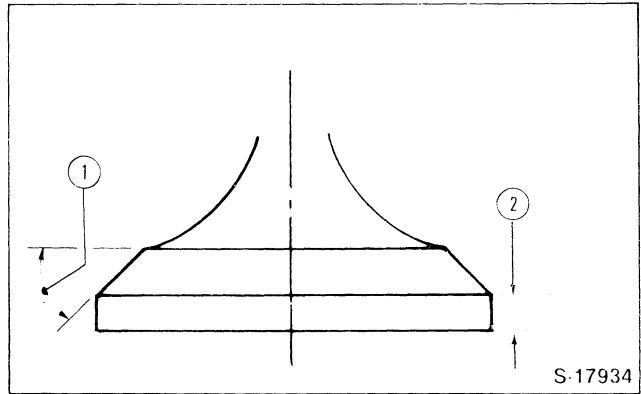

Figure 20
3. If inspection indicates that the valve may be re-used, the valve should be ground as shown, Figure 20.